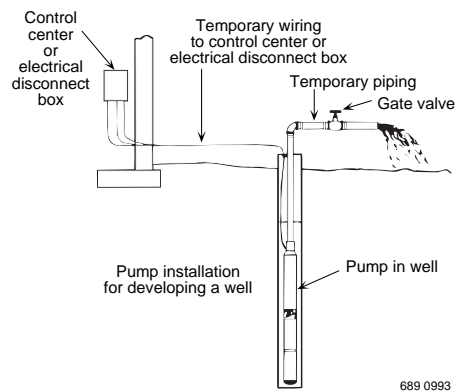

FIGURE 11 - Temporary connections while cleaning well for start-up.
1. Connect a pipe elbow, a short length of pipe and a gate valve to pump discharge at well head (see Figure 11).
5. Set gate valve on discharge 1/3 open; start pump (see Figure 11).